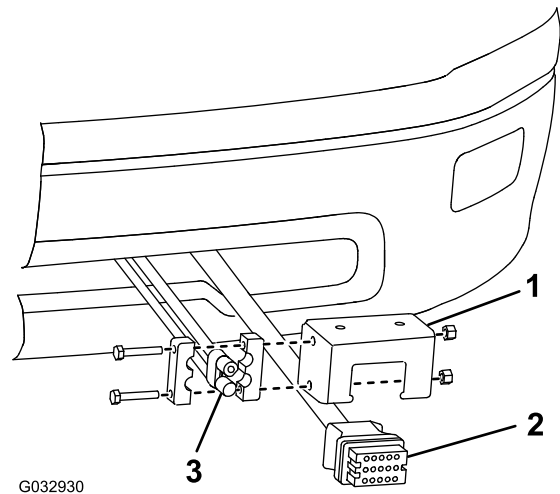

Figure 24
27. Mount the truck-side, wire harness plow connector to the lower part of the bumper using the control harness mounting bracket (Figure 24).
28. Mount the black and red power/ground connector to the control harness mounting bracket (Figure 24).